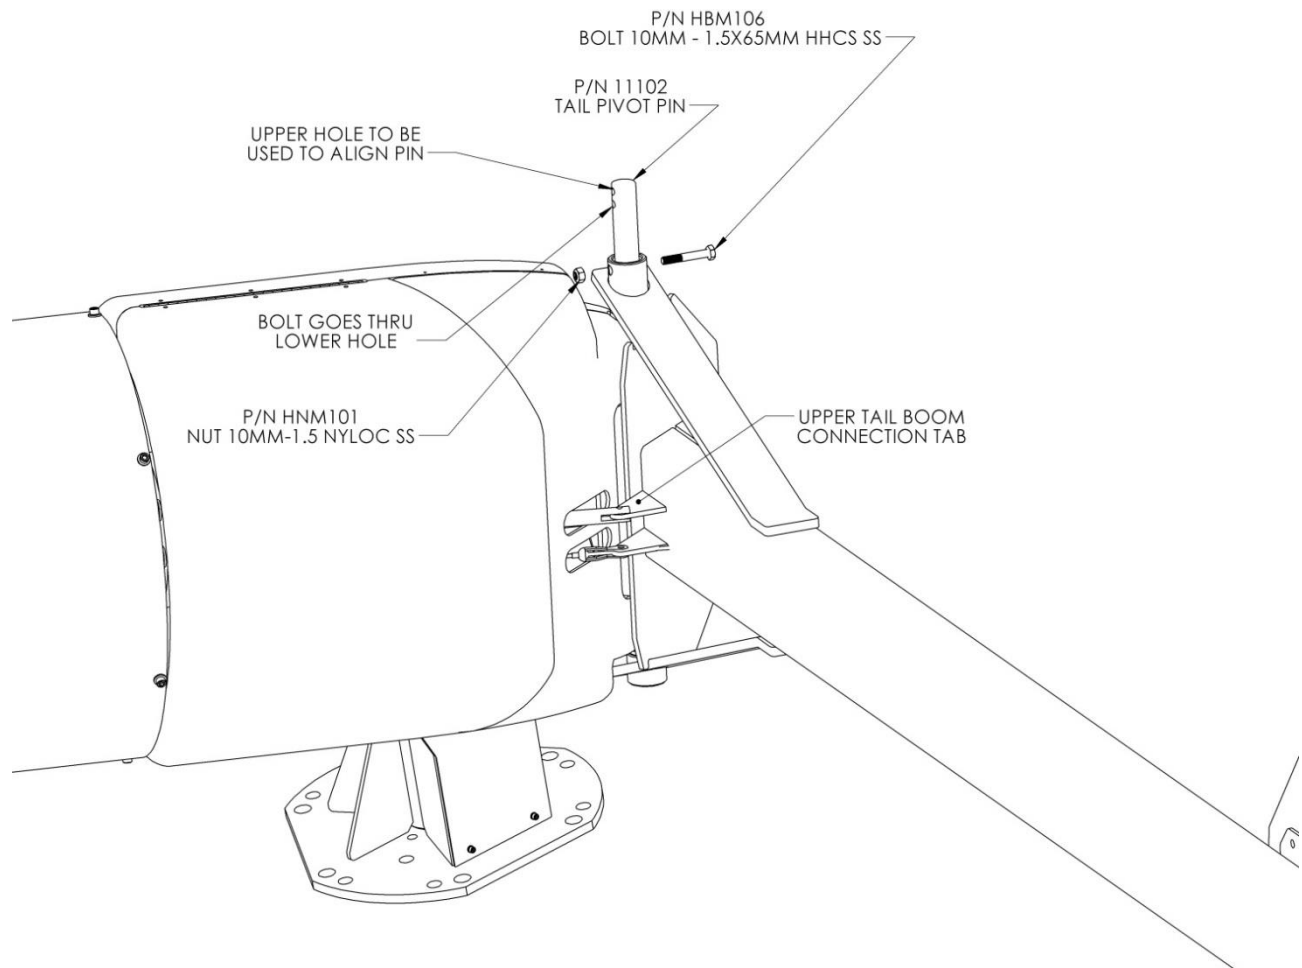

Figure 12: Excel Tail Boom and Pivot Pin System
4. Hold the tail boom in a position so the end with the boom is angled up $\sim 15^\circ$, align the tail bushings with those of the powerhead, then insert the tail pivot pin as shown in **Figure 12**. The pin may need tapping through, but keep in mind that the stainless steel pin can be damaged if it is handled incorrectly. Use a block of wood or rubber mallet on the pin.